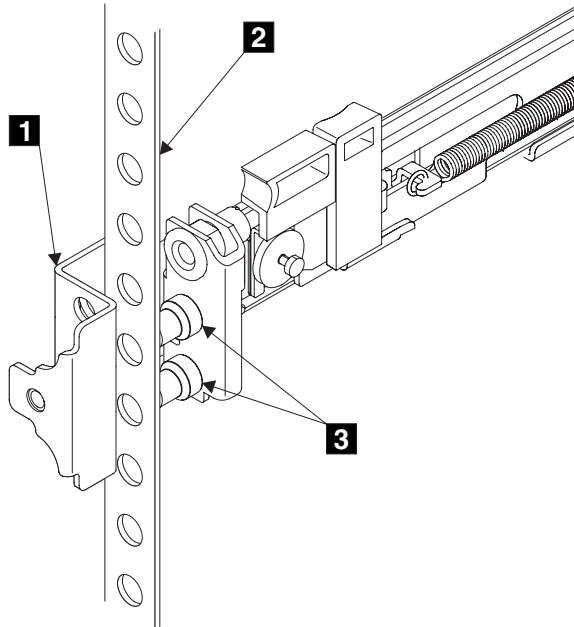

Figure 41. Installing the front end of the rail
6. Place the front end of the left rail in the rack cabinet. Align the top of the front bracket **1** (Figure 41) with the required EIA marking that is on the rack.